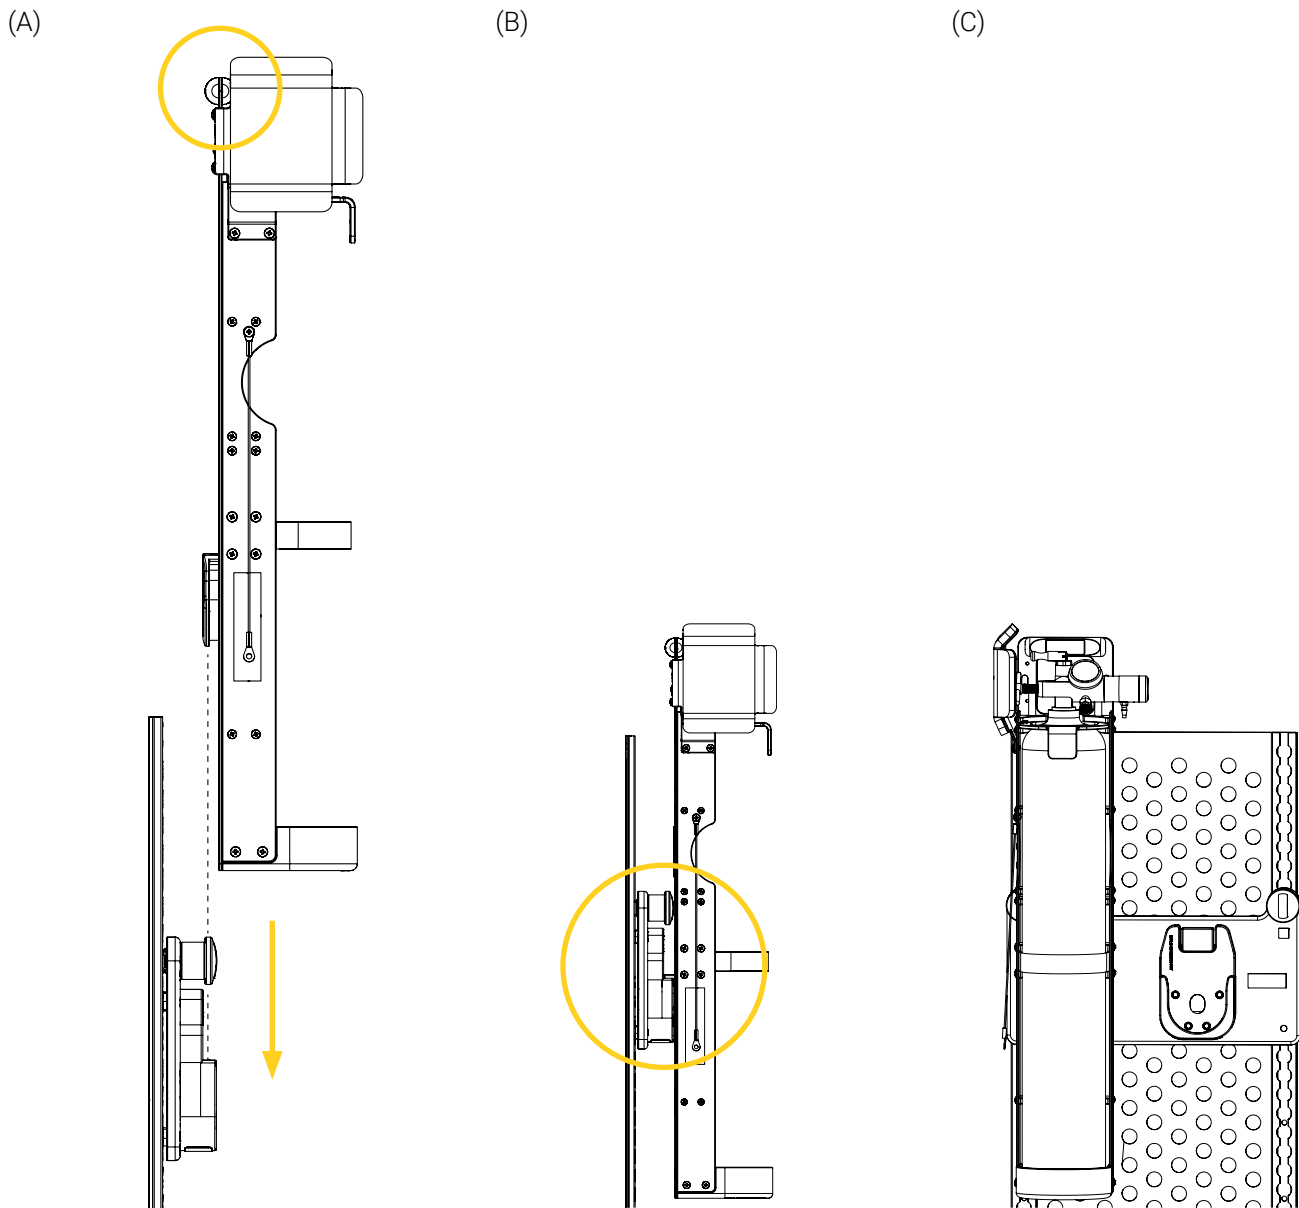

Figure 12: Installing the gas cylinder holder on the Micro Base
1. Lift the gas cylinder holder using the transport handle (Figure 12 A), then align and insert the micro disc of the gas cylinder holder vertically in the Micro Base (Figure 12 B and Figure 12 C).